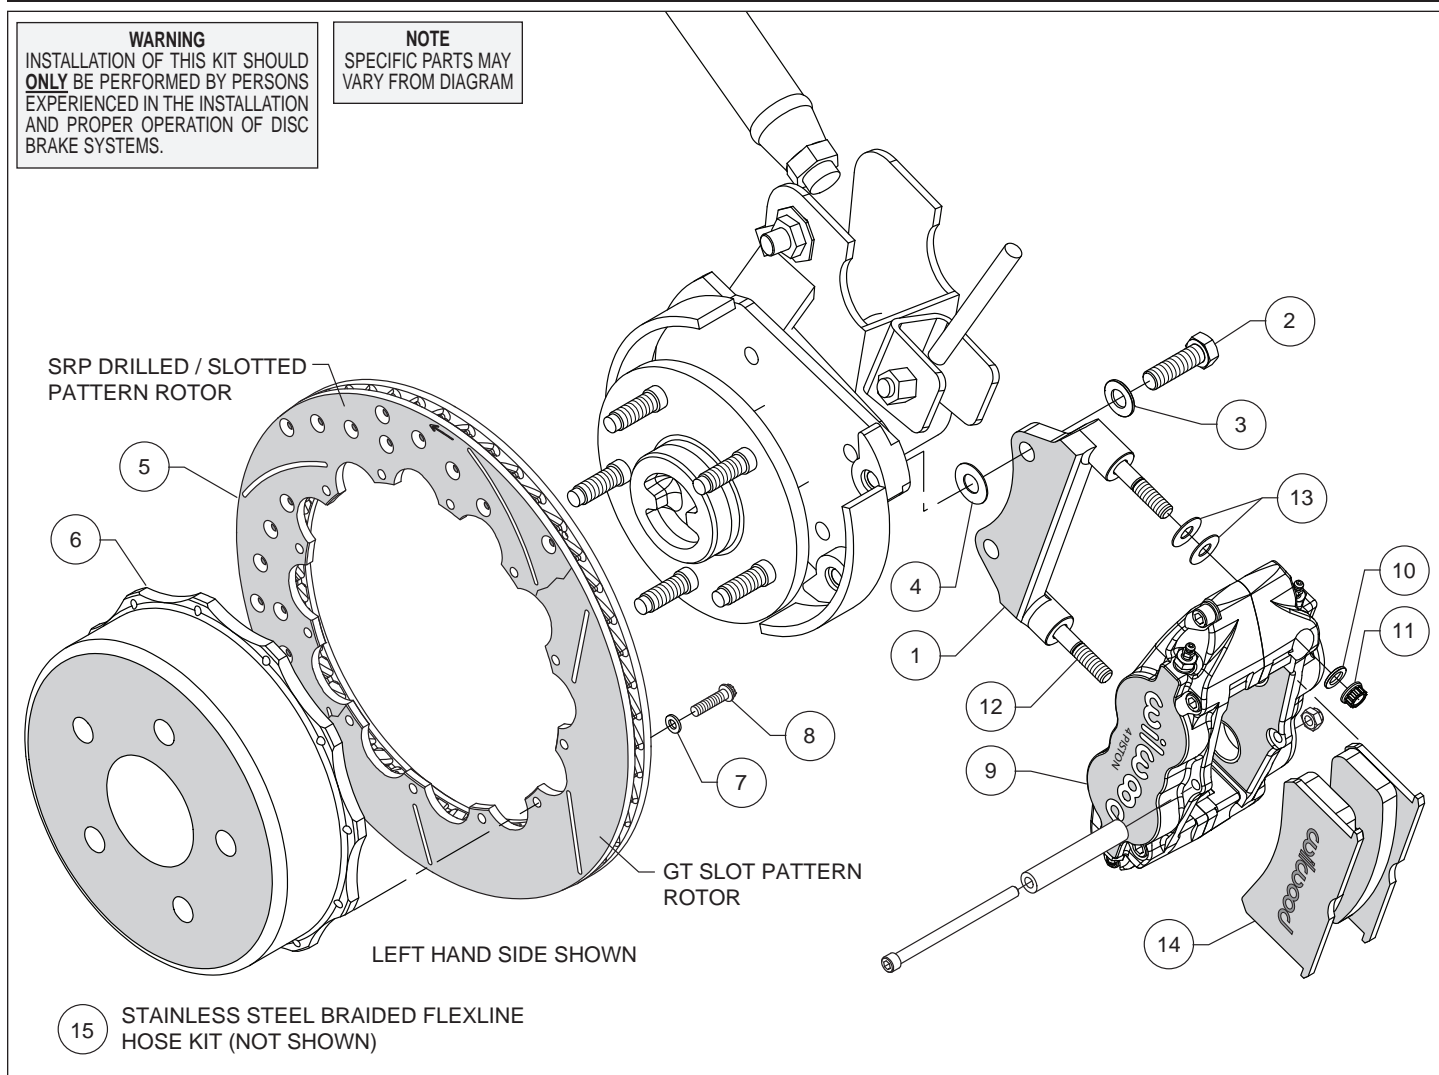
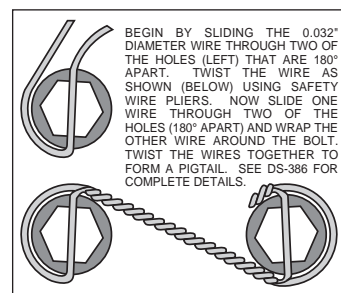

Figure 1. Typical Installation Configuration
Figure 3. Safety Wire Diagram
**Assembly Instructions** (numbers in parenthesis refer to the parts list and Figure 1 on the preceding pages):
- The caliper mount bracket (1) should initially be installed with clean, dry threads on the mounting bolts. Orient the bracket as shown in Figure 1, and install using mount bolts (2) and washers (3). Initially place one .033" thick shim (4) on each bolt between the bracket and upright, Figure 1. Temporarily tighten the mounting bolts. **NOTE:** The bracket must fit squarely against the mount bosses on the upright. Inspect for interference from casting irregularities, machining ridges, burrs, etc. Later, after the caliper alignment has been checked, the mount bolts will be secured using red *Loctite*® 271.
- Orient the rotor (5) and the hat (6) as shown in Figure 1 and Photo 2. Attach rotor to hat using bolts (8) and washers (7). Using an alternating sequence, apply red *Loctite*® 271 to the threads, and torque to 140 in-lbs. The bolts must be safety wired using standard 0.032 inch diameter stainless steel safety wire as shown in Figure 3. Please refer to Wilwood's data sheet DS-386 (available at [www.wilwood.com/Pdf/DataSheets/ds386.pdf](http://www.wilwood.com/Pdf/DataSheets/ds386.pdf)) for complete safety wire installation instructions.
- Lubricate the caliper mounting studs (12) with lightweight oil. Initially place two .035" thick shims (13) on each stud as shown in Figure 1 and Photo 4. Mount the caliper (9) onto the bracket (1) using lock nuts (11) and washers (10), Figure 1. Temporarily tighten the lock nuts and view the rotor through the top opening of the caliper. The rotor should be centered in the caliper, Photo 5. If not, adjust by adding or subtracting shims (4) between the bracket and the mounting bosses. Always use the same amount of shims on each of the two mounting bolts. Once the caliper alignment is correct, remove the bracket mounting bolts one at a time, apply red *Loctite*® 271 to the threads, and torque to 60 ft-lb.